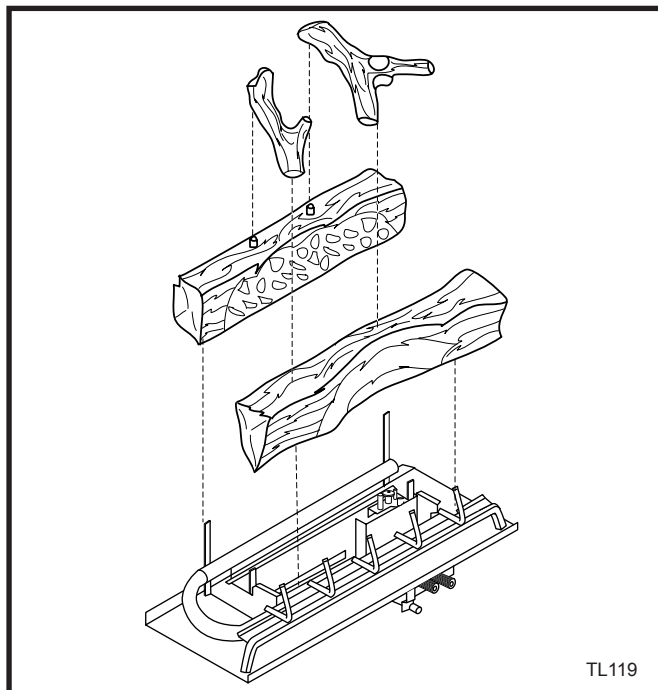

Fig. 43 Correct log placement for 36/39RDVN.
2. Remove logs from carton and inspect. Refer to Figure 43.